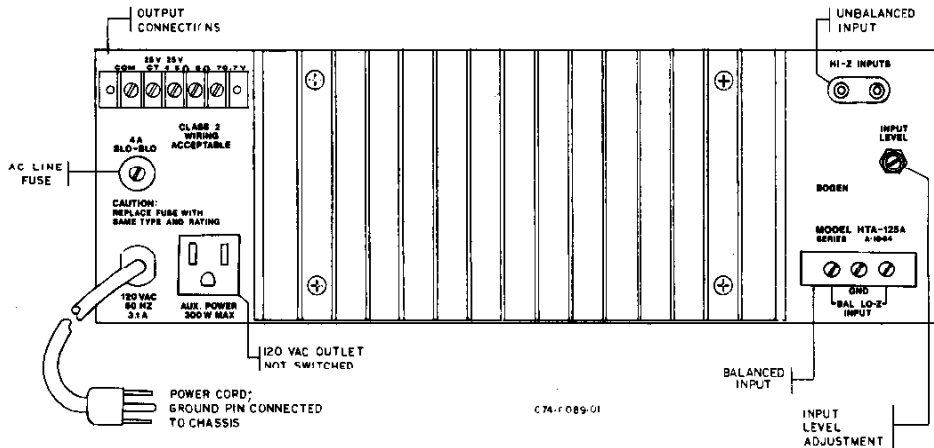

Figure 1 — HTA-125A Rear Panel Connection Diagram
**LOW-IMPEDANCE BALANCED INPUT.** A balanced input, provided at the BAL LO-Z terminal strip (Figures 1, 3), requires the installation of a Bogen Model TL-600 line-matching transformer. Remove the top cover of the unit and install the transformer in the socket designated T1 provided on the printed circuit board. An input signal of 100mV is required for full rated output.
**HIGH-IMPEDANCE INPUT.** A high-impedance input is provided by two RCA-type 1/4" phono jacks (see Figures 1, 3). An input signal of 500mV is required for full rated output.
Output connections are available on the rear panel terminal strip for 4-ohm, 8-ohm, 25V, 25VCT, and 70 V (the 4-ohm output is combined with the 25V tap on the HTA-125A). Figures 1 and 3 show the location of the output terminal strip. Class 2 wiring is acceptable for output loads. Refer to Note 2 on the schematic diagram for 4-ohm output impedance in the HTA-125A.
**AC LINE FUSE.** Figures 1 and 3 show the location of the AC line fuse. Replace the fuse only with same type and rating. If a second fuse blows, do not make any attempt to operate the unit. Consult the Bogen Service Department or an authorized service agency.